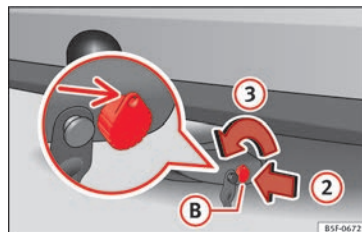

Fig. 231 Releasing the lock.
- Insert key **(B)** into the lock in the direction of arrow **(2)** » **Fig. 231**.